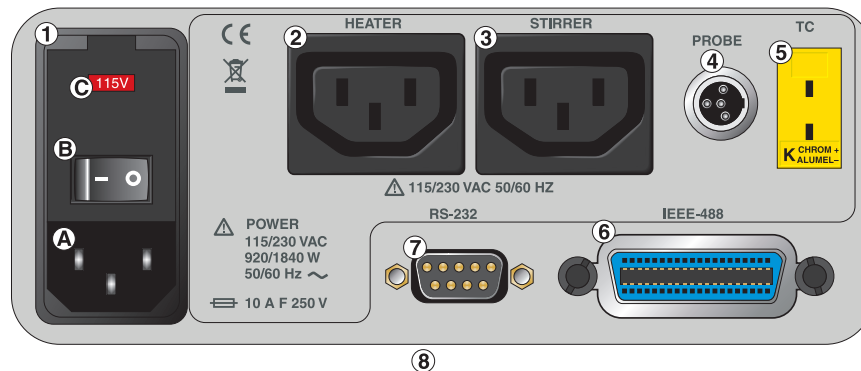

Figure 5. Back panel features
(3) The Control Indicator is a two color light emitting diode. This indicator lets the user visually see the ratio of heating to cooling. When the indicator is red the heater is on, and when it is green the heater is off and the system is cooling.
The following features are found on the rear panel of the controller: (1) power entry module, (2) the solid state relay, (3) the heater power connector, (4) the stirrer power connector, (5) the control probe input connector, (6) the cutout thermocouple connector, (7) the optional IEEE-488 (GPIB) interface connector, (8) the RS-232 interface connector, and (9) the serial number label. (see Figure 5)
The output voltage to the heater and stirrer sockets (Items 3 and 4 in Figure 5) is the same as the input voltage of the power entry module (Item 1 in Figure 5).
(C) The power entry module is provided with a dual voltage selector integrated into the fuse holder. The controller has been specially designed to allow either 115 or 230 VAC operation. The voltage indicator window notifies the user of the voltage selected. See Figure 5.